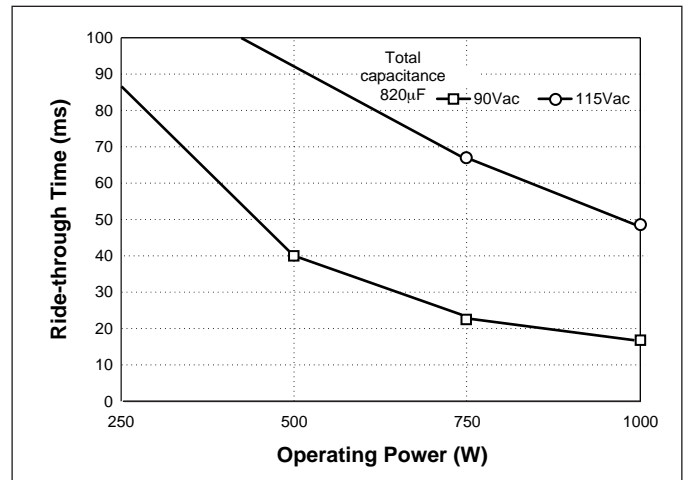

Figure 15—Ride-through time vs. operating power
**Determining Ride-through Time.** Figure 15 illustrates ride-through time as a function of line voltage and output power, and shows that at a nominal line of 90Vac, ride-through would be 68 ms. Ride-through time is a function of line voltage.